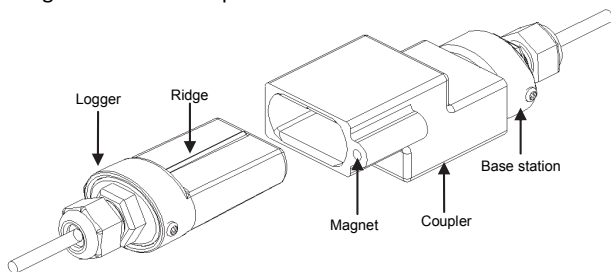

Figure 3: Inserting Logger into Base Station
- Insert the logger and the base station into the coupler, as shown in Figure 3. Make sure that the logger is inserted in the end of the coupler that has the magnet, and that the ridges on the base station and logger are aligned with the grooves in the coupler.